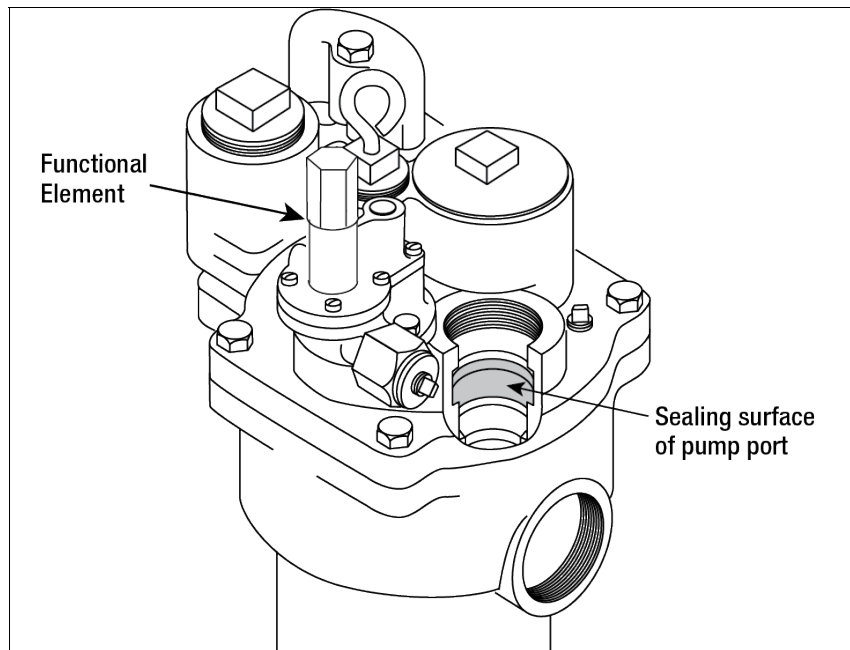

Figure 3. Sealing Surface For SwiftCheck Valve's External O-Ring
6. Ensure that the sealing surface for the SwiftCheck valve's external o-ring is smooth and free from corrosion, pitting, and any material build-up [Figure 3].